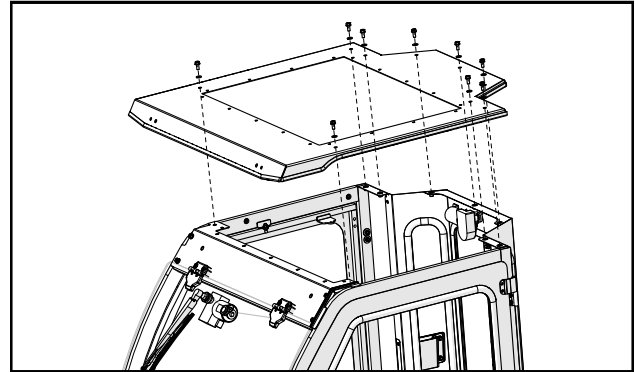

Fig. 2.1 (Install New Roof)
- 2.1** With assistance, lower the roof assembly onto the top of the installed cab. Figure 2.1.